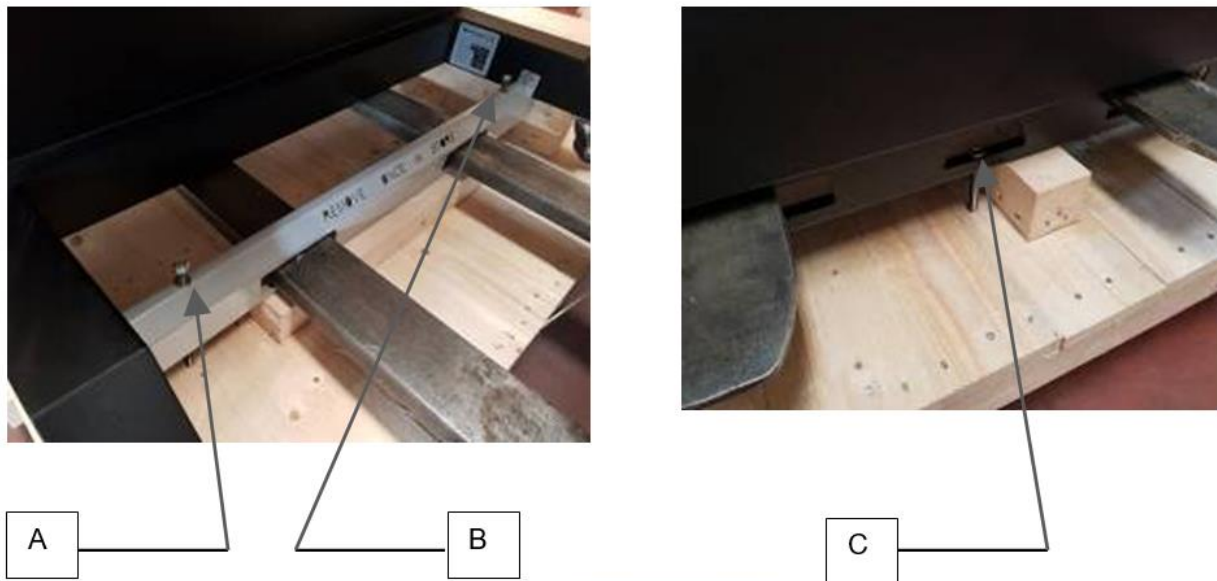

Figure 8 - Fixing the machine to the pallet
With reference to Figure 8, to release the machine from the wooden base on which it is blocked proceed as follows:
- Unscrew the nuts at the top of the threaded rods visible in Figure 8 ref. A and B, then take out the threaded rods. A 19 mm hex wrench is sufficient to unscrew the threaded nut. If the threaded rod rotates around itself while loosening the nut during unscrewing, which would make any attempt to remove the threaded nut vain, just use a pair of pliers to stop it from rotating.
- Next, unscrew the threaded nut locking the machine to the pallet, located on the rear side Figure 8 ref. C, then pull out the threaded rod. A 19 mm hex wrench is sufficient to unscrew the threaded nut. If the threaded rod rotates around itself while loosening the nut during unscrewing, which would make any attempt to remove the threaded nut vain, just use a pair of pliers to stop it from rotating.